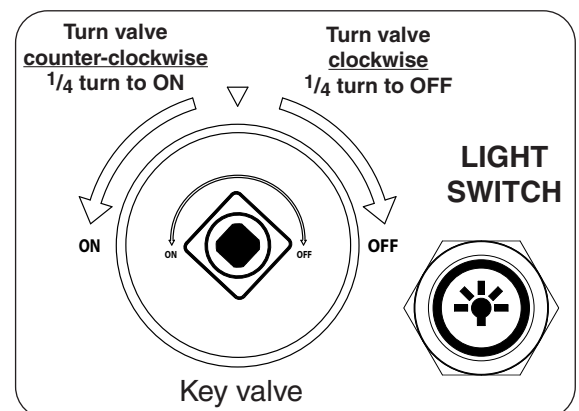

Fig. 47-2
4. **Once the match is burning and in position**, turn the key valve counter-clockwise a $\frac{1}{4}$ turn to the **ON** position (see Fig. 47-2). Your burner should light.
To extinguish your gas burner, turn the key valve clockwise a $\frac{1}{4}$ turn to the **OFF** position (see Fig. 47-2). Be sure the key valve is turned fully off to avoid any gas leakage.
1. Push light switch in to turn on the lights. The light switch will light up when on. See Fig. 47-2.